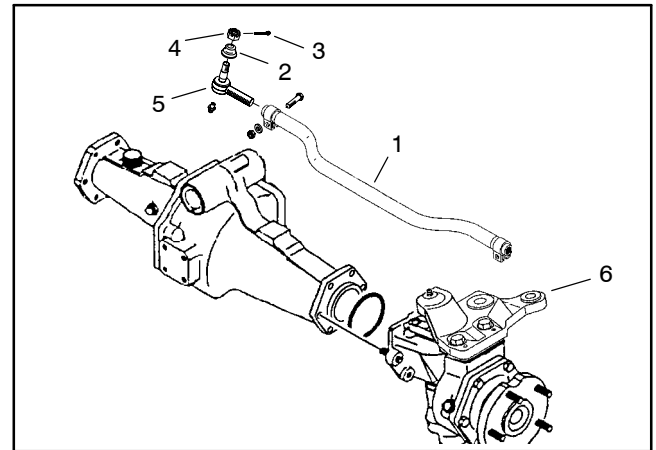

Figure 9
11. If required, remove tie rod ends from steering arms on rear axle (Fig. 9). Remove the cotter pins and castle nuts from the tie rod ball joints. Use a ball joint fork and remove the tie rod ends from the axle steering arms.
2. If removed, install the tie rod to rear axle (Fig. 9). Tighten ball joint castle nuts and install new cotter pins.